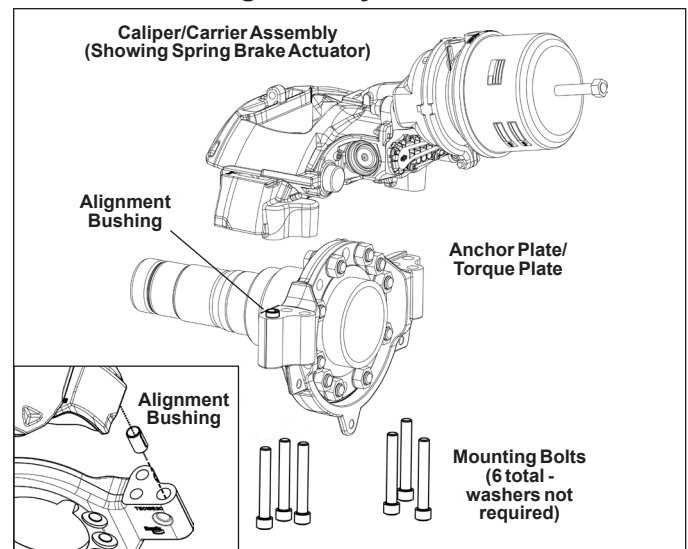

Figure 40 – Vertical Mount Caliper/Carrier
- 4.3.4 See Figure 40. Supporting the air disc brake by necessary means, remove the six (6) mounting bolts/washers and discard. **NOTE:** Bendix strongly recommends that during reassembly these bolts are replaced – see your vehicle manufacturer for replacement hardware. Lift the caliper up off the anchor plate.